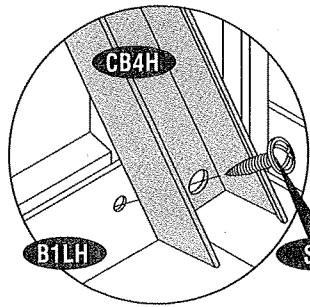

Fig.1
31. Fix the center band (CB4H) to the base 'U' channel (B1LH) and door column (CDLA) with (S1) screws. See fig.1&2. Fix the (EPS) at the end of (CB1H) & (CB4H). See fig.3.